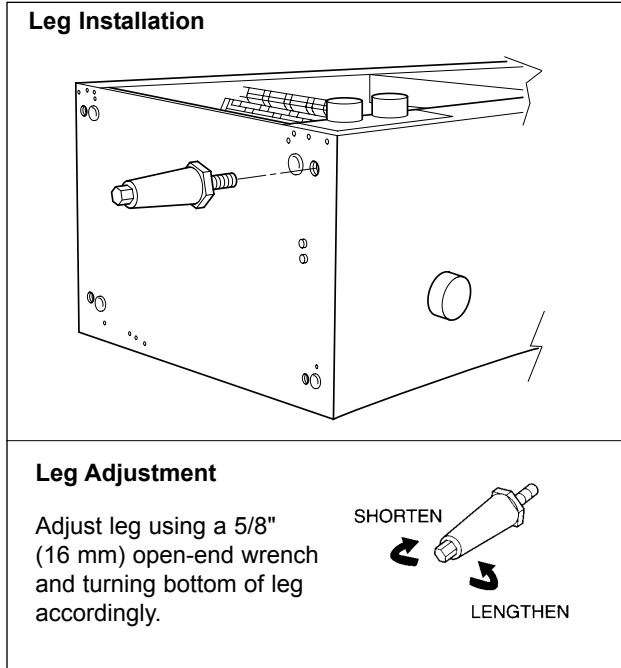

Figure 10. Adjustable Legs
2. Thread the 4" (10 cm) adjustable legs into the existing leg holes on the bottom of the unit. See Figure 10.